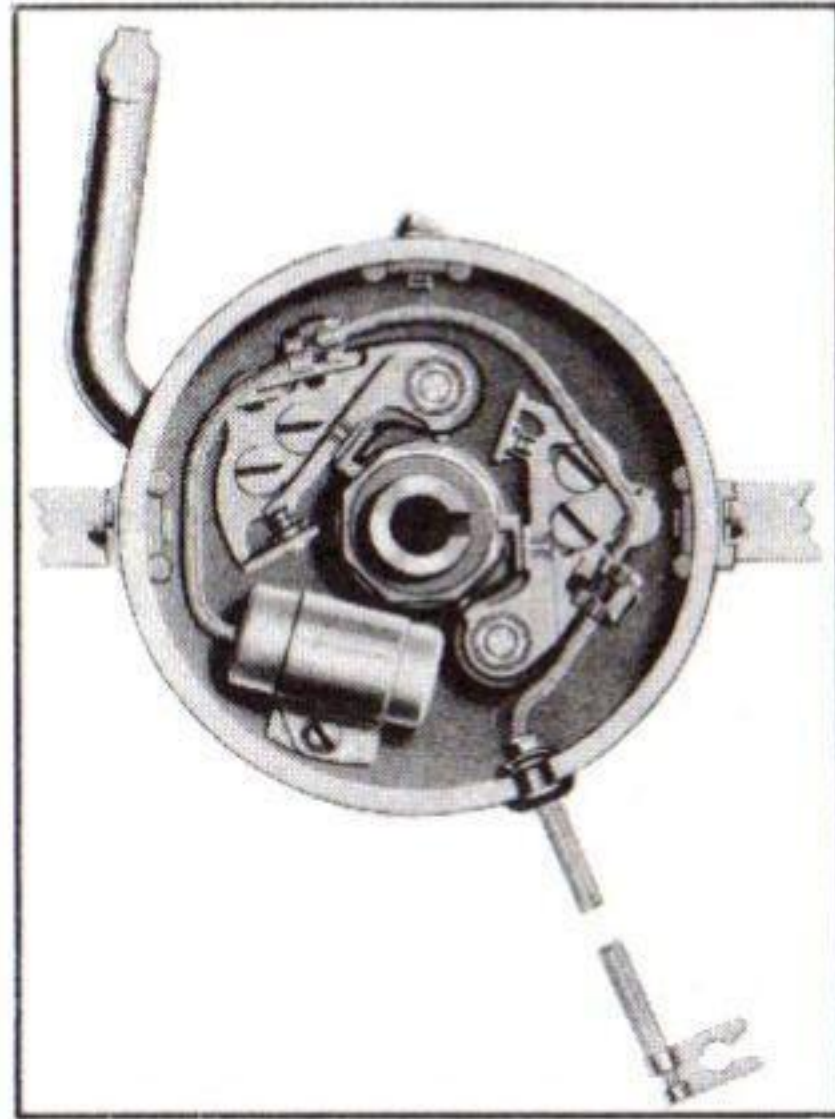

Fig. 56—Distributor
- Loosen screw and nut attaching lead wire to stationary point. Remove lead wire and condenser lead (fig. 56). Remove the stationary point lock screw and remove point and arm. Repeat operation for other point.